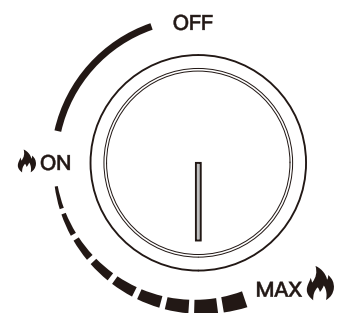

Figure 3
5. After the fire pit lights, keep holding the control knob for 3–5 seconds to heat up the thermocouple. Then release it. To increase the flame, turn the control knob counterclockwise in the direction of the “MAX” position (Figure 3). To decrease the flame, just turn the control knob clockwise in the direction of the “ON” position.